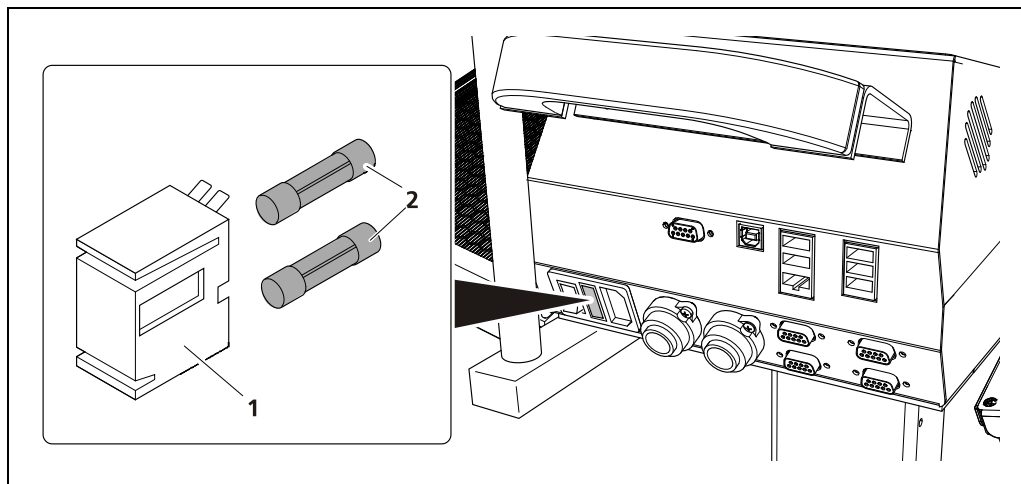

Fig. 40 Fuse replacement
2. Remove the fuse holder (Fig. 40, item 1).
3. Remove the fuses (Fig. 40, item 2).